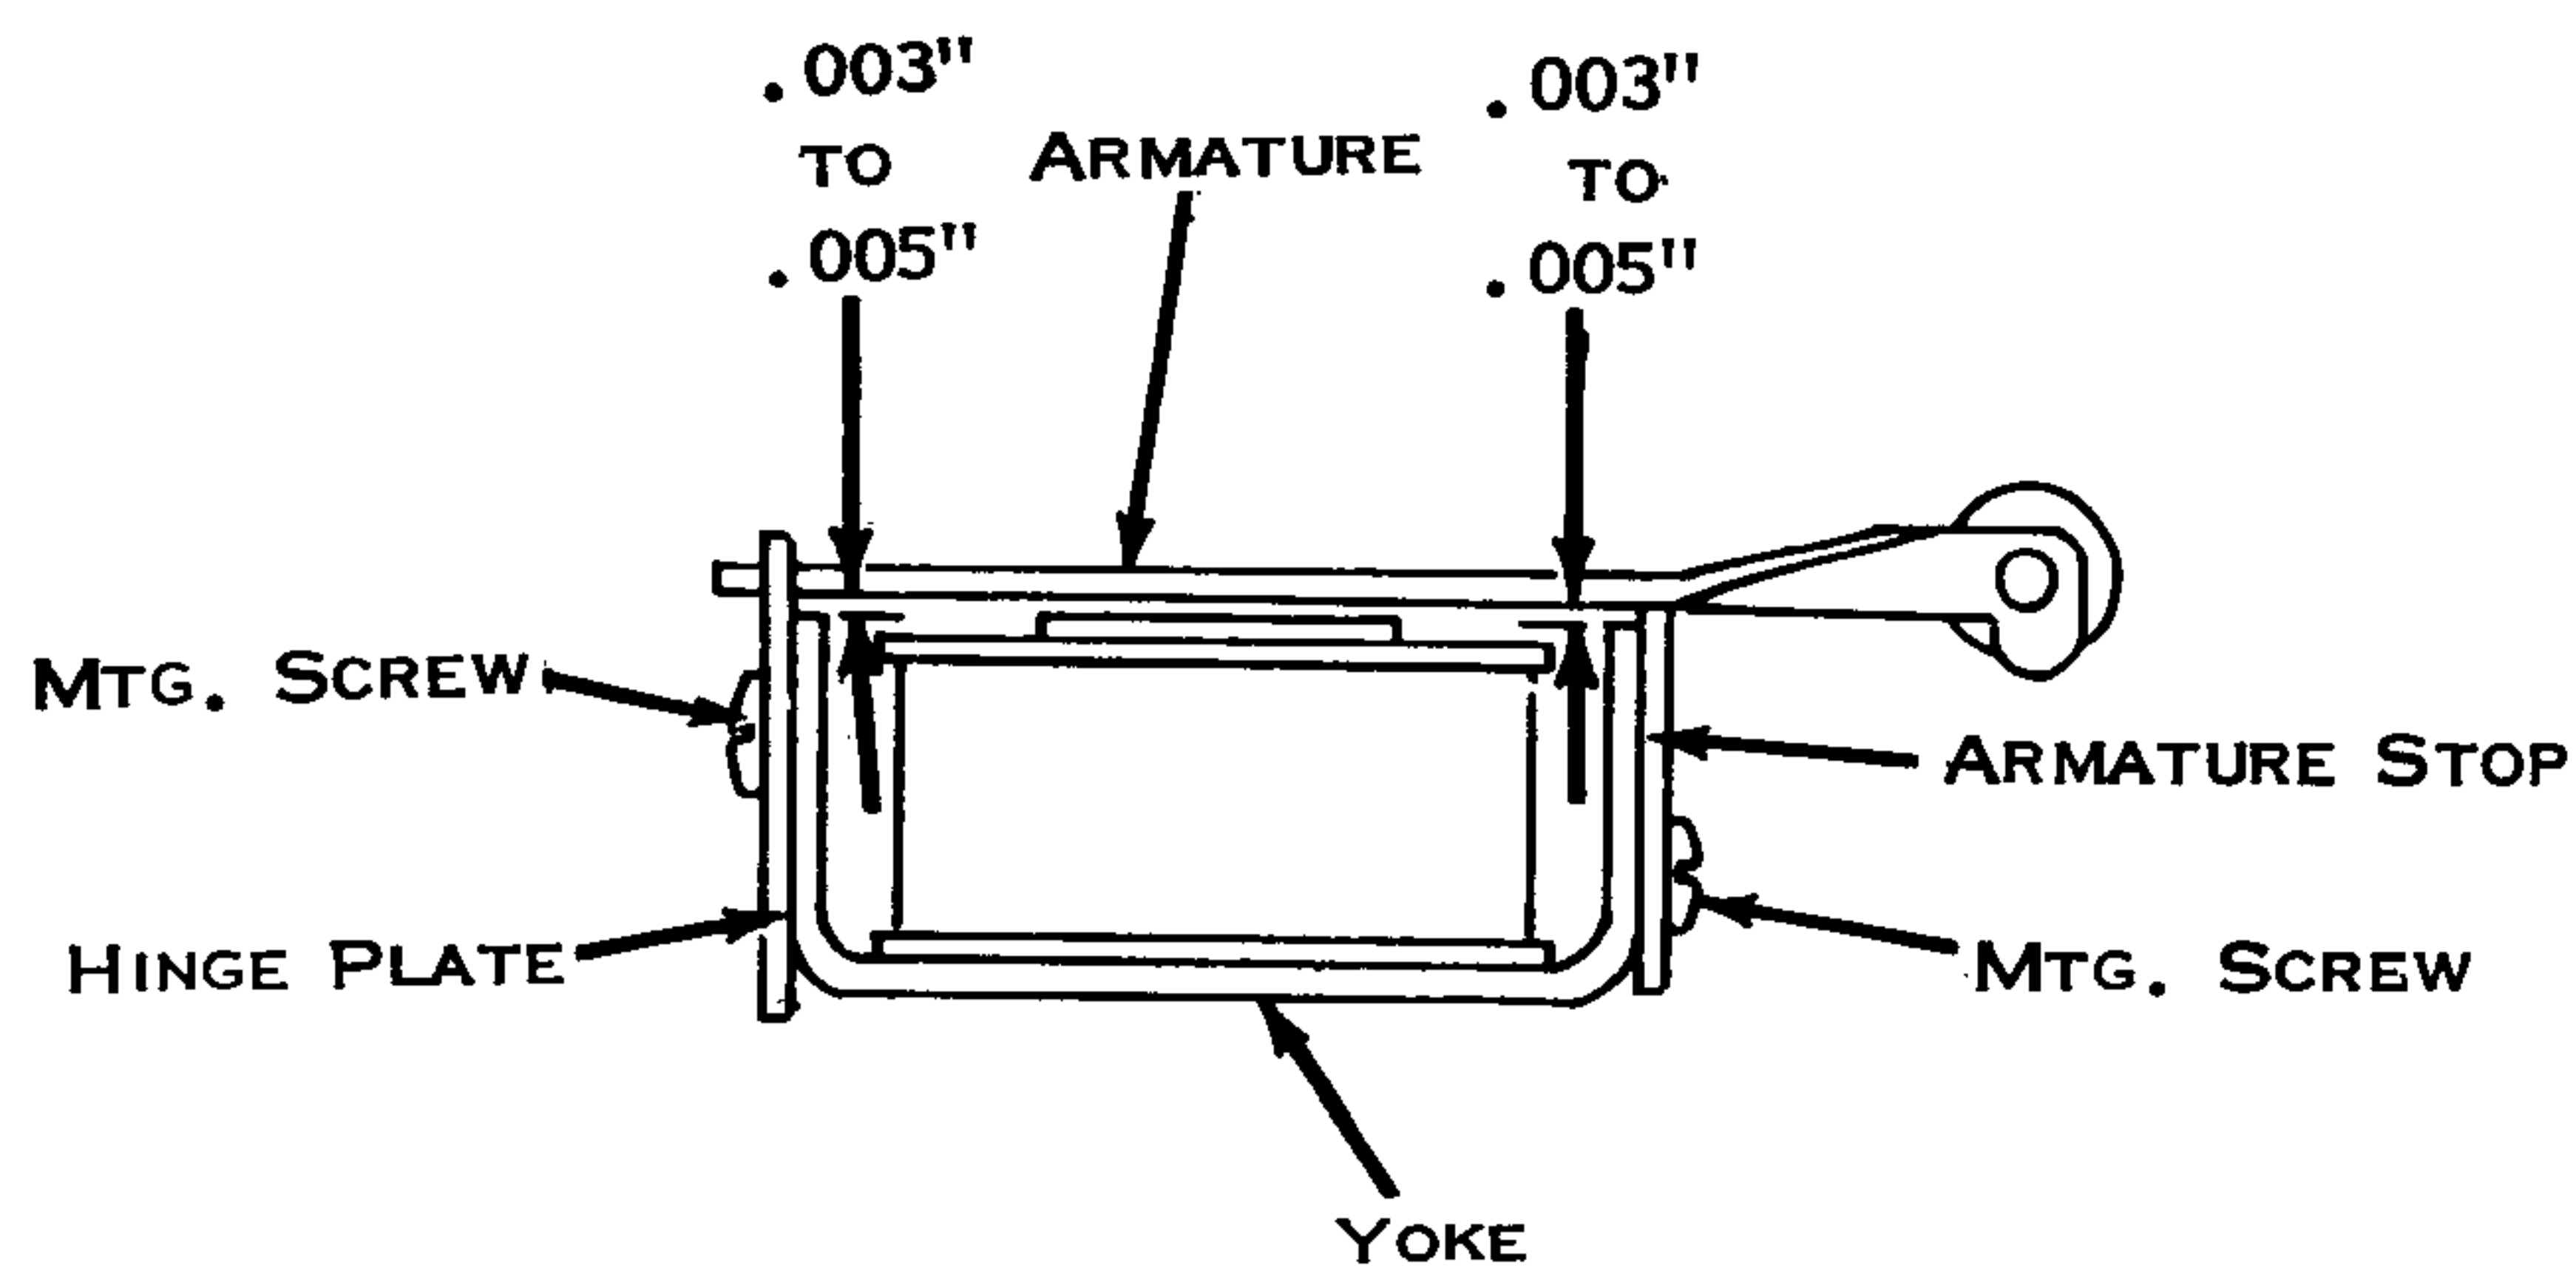

Figure 214. Magnet Adjustments (1 Magnet)
3. Magnet Adjustments (1 Magnet) (Fig. 214) - With the red shift magnet armature energized, position the hinge plate and armature stop so that the armature clears the yoke (both inner and outer poles) by .003" to .005".